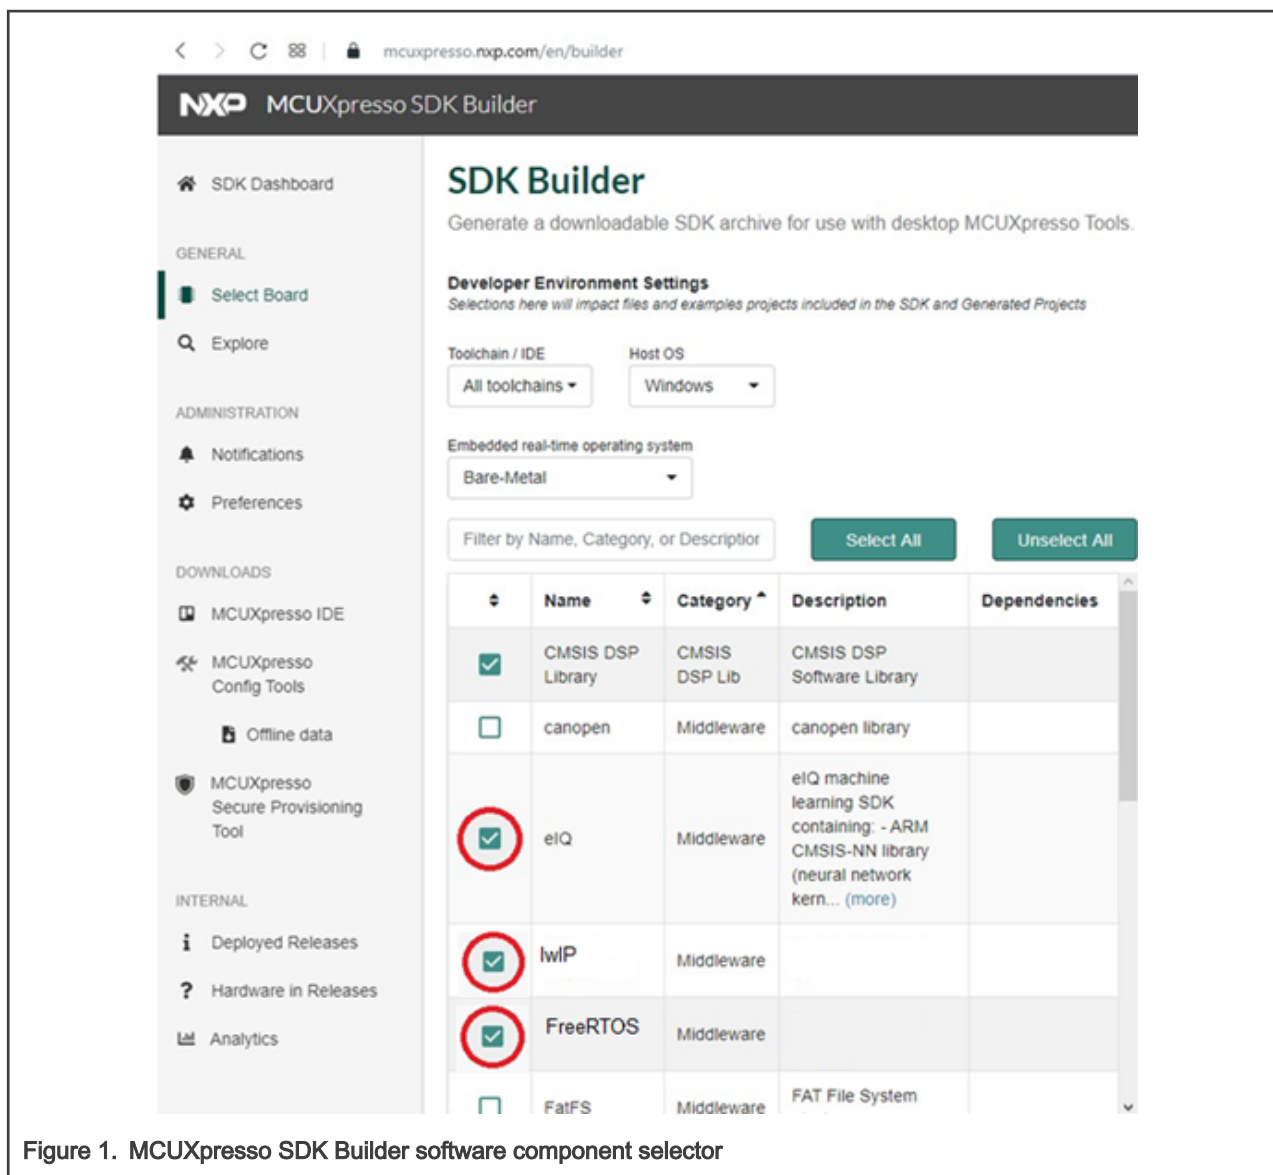

Figure 1. MCUXpresso SDK Builder software component selector
5. Ensure that lwIP and FreeRTOS are selected in the MCUXpresso SDK Builder software component selector. For details, see Figure 1.